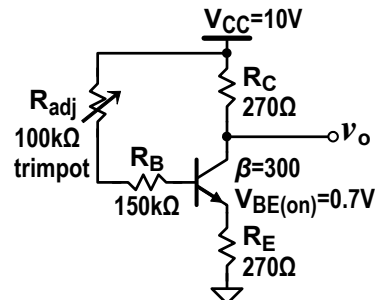

Figure 1. Emitter-stabilized bias circuit
1. For the circuit given in Figure 1
1. Build the circuit given in Figure 1. Turn on the power supply on and adjust R_{adj} so that V_{CE} is 5 V.